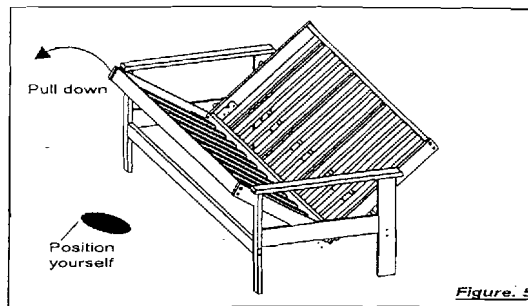

Figure 5
5. Pull down the seat deck gently and rest it on the front stretcher rail. (figure 5).